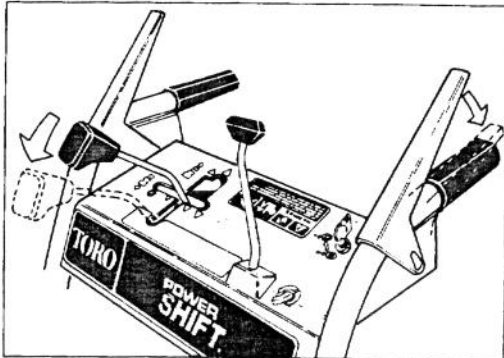

Figure 13
2. To move wheels to front or rear position, move shift control fully forward to Power Shift position and hold (Fig. 13).
3. Fully engage traction drive lever to move wheels into Power Shift position (Figs. 13 & 14).